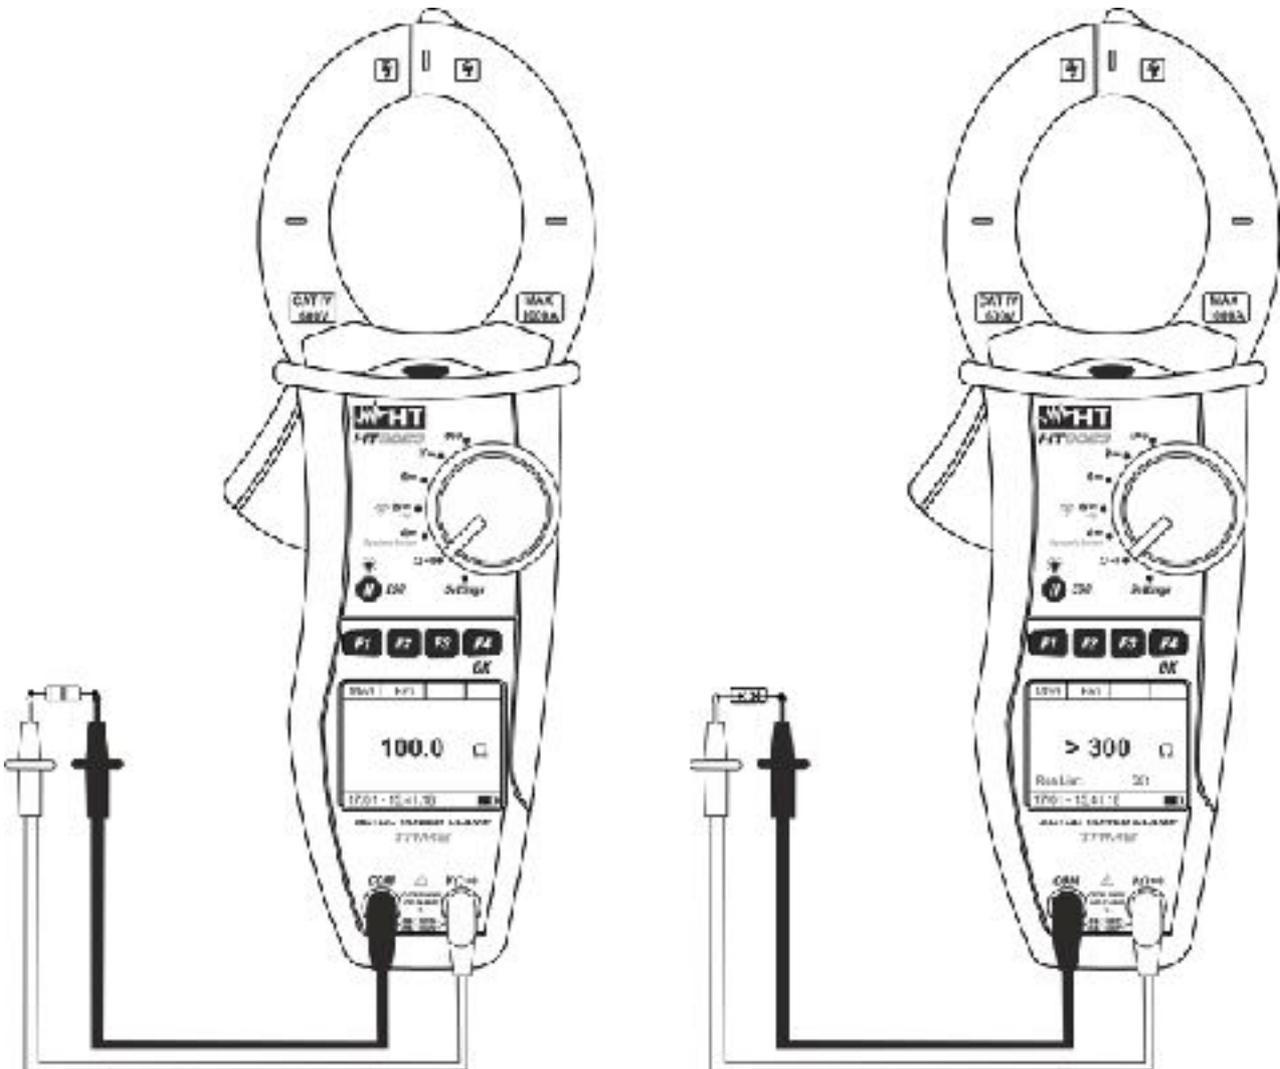

Fig. 14: Resistance measurement
4. Connect red cable to the input lead **VΩ** and black cable to the input lead **COM**, then connect the instrument (see Fig. 14 – left part)